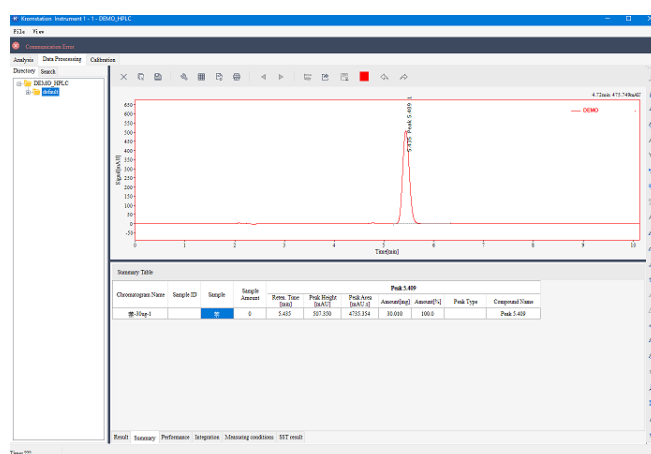

Figure 7-6 Chromatogram-Use of Calibration File
- 3) After the setting is completed, the quantitative calculation results of each substance in the sample corresponding to the calibration curve will be displayed in the "Result" tab and the "Summary" tab, as shown in Figure 7-6.